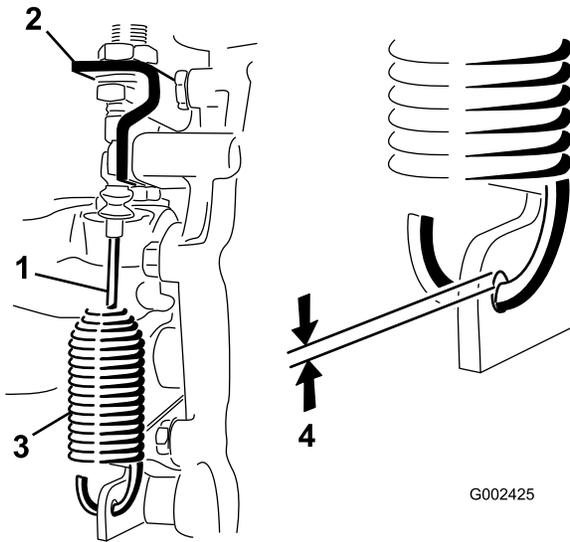

Figure 48
- Loosen the jam nuts securing the differential lock cable to the bracket on the transaxle (Figure 48).